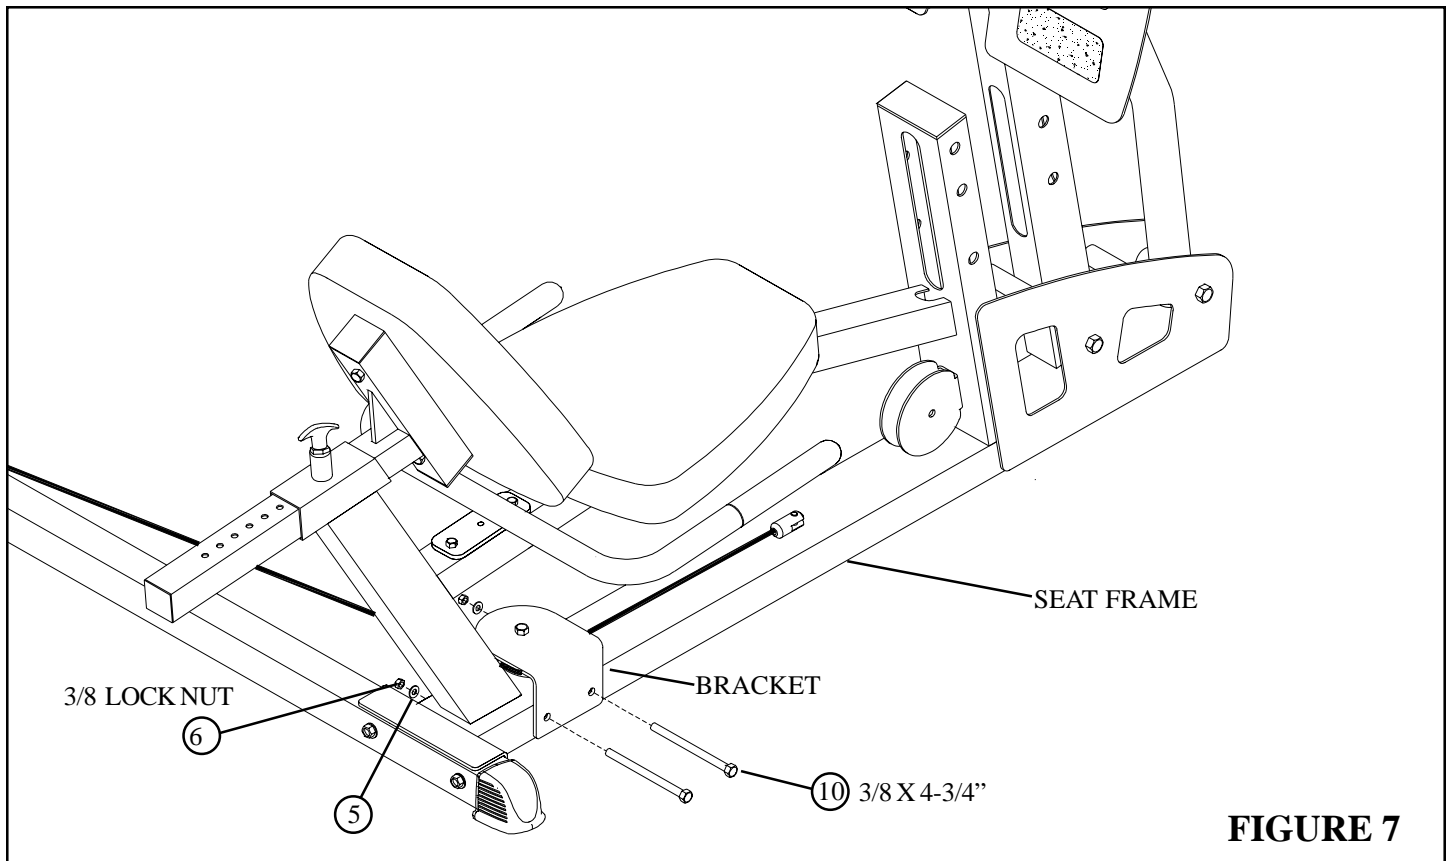

FIGURE 7
- **SECURELY** attach the BRACKET (from LP5 LEG PRESS) to the SEAT FRAME using two 3/8" X 4-3/4" BOLTS (10), two 3/8" WASHERS (5), and two 3/8" LOCK NUTS (6). See FIGURE 7.